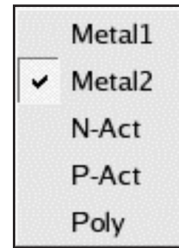

Figure 9. Layer context menu.
- 3) Select a different wiring layer in the context menu (see Figure 9).
- 3) Right mouse click to pop up a context menu and select another layer (see Figure 9), or use the Input Panel of the Stitch Wires command (see Figure 12).